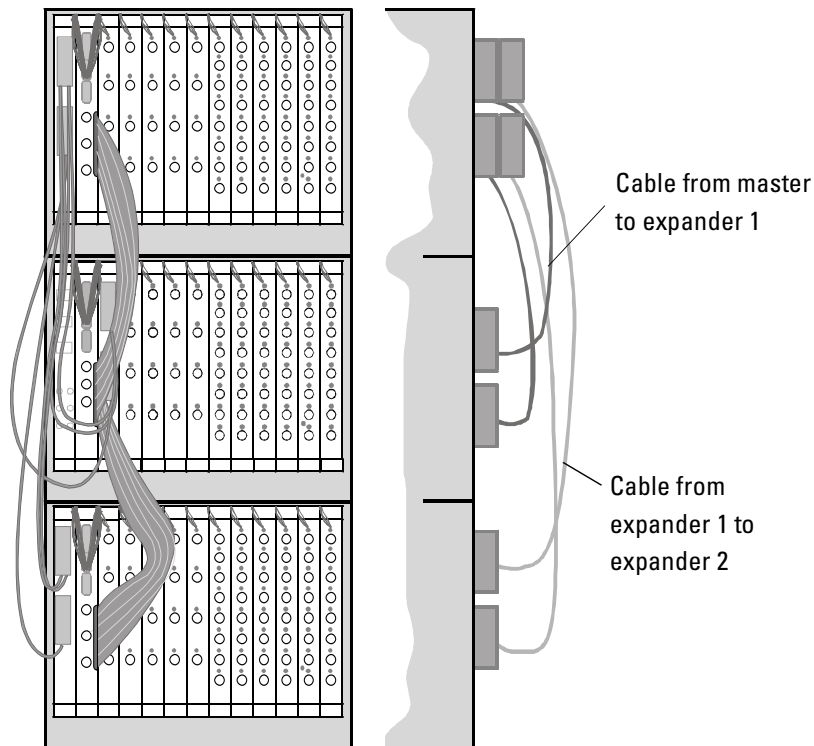

Figure 22 Connections for NI VXI-MXI-2 Bus Extenders
- 2 Connect expander frame 1 to expander frame 2. Plug the cable from expander frame 2 onto the connector of expander frame 1 as illustrated in *Figure 22*.